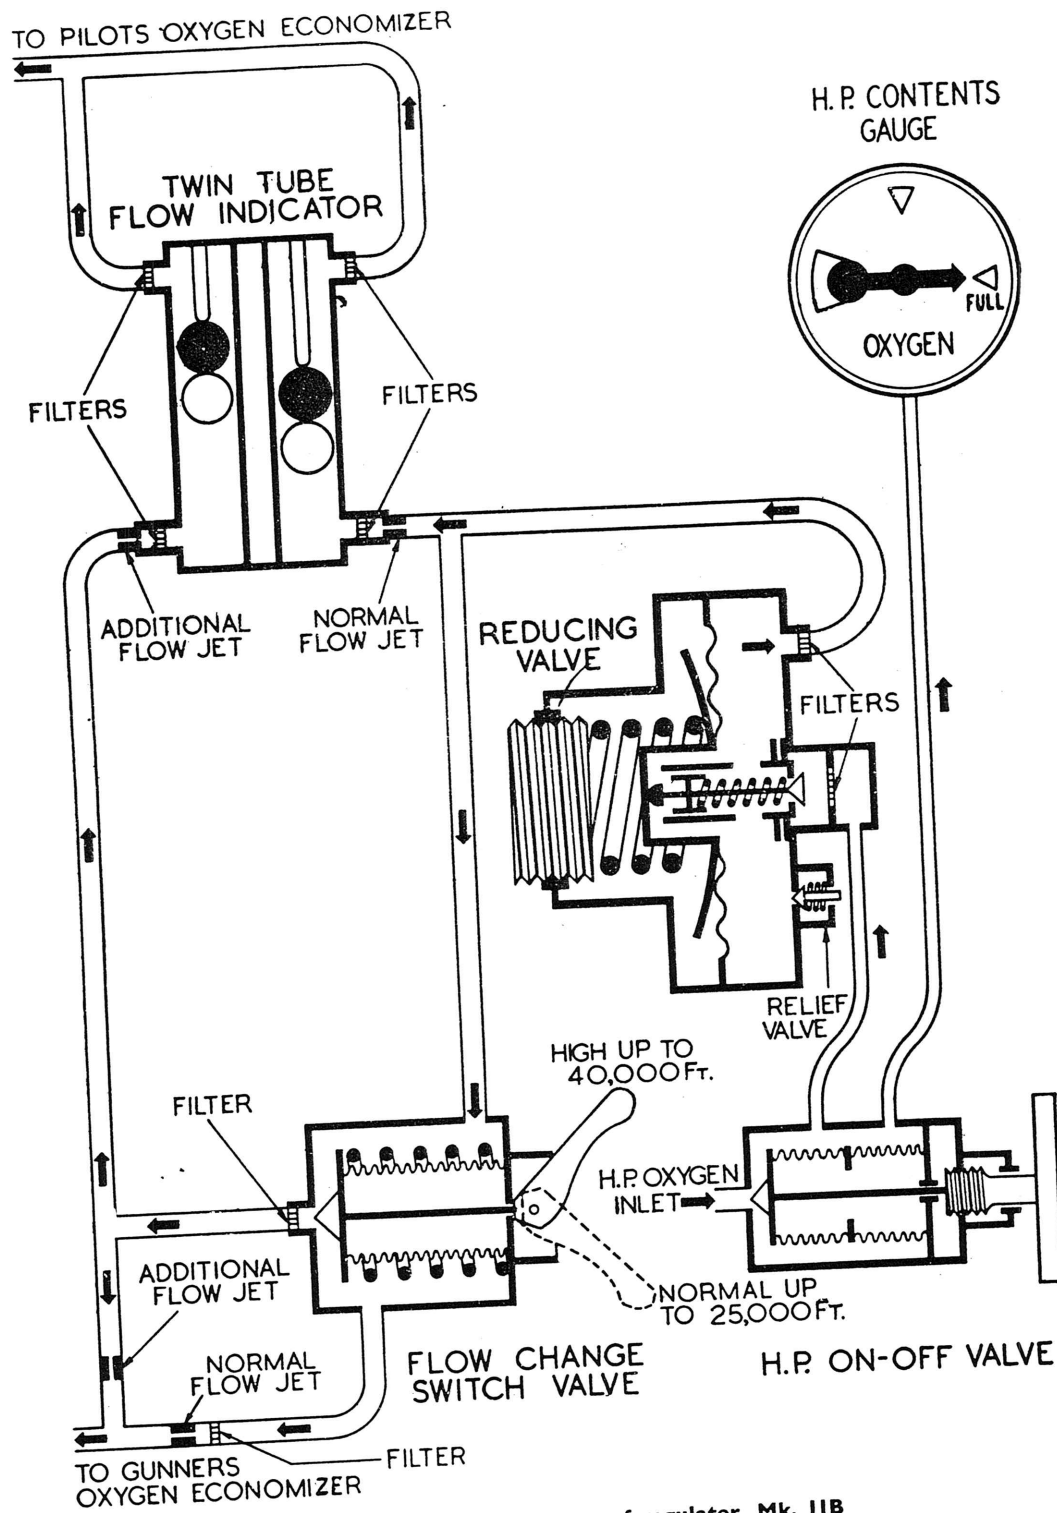

Fig. 7. Schematic diagram of regulator, Mk. IIB
and closed in the NORMAL position of the switch lever; a spring (shown in fig. 7) is fitted on the outside of the bellows to provide a reasonable closing force for the valve.
12. A diagram illustrating the action of the Mk. 11B oxygen regulator is shown in fig. 7. The action of the regulator is as follows. Gas at high pressure enters through the inlet
**13.** The flow to each outlet connection is controlled by two jets (fig. 7) one of which is always open to reduced pressure, the left-hand tube being isolated from this pressure when the switch valve is closed. Thus in the **NORMAL** position of the switch (i.e., when the valve is closed) the flow from the outlet connection will be that from one control jet only. When the switch is in the **HIGH** position (i.e., when the valve is open), the flow will be the combined flow from the two jets.